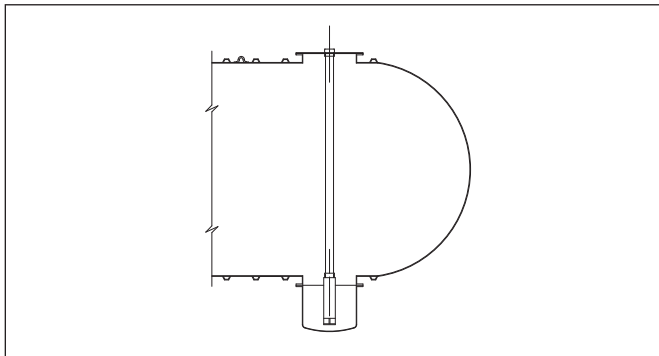

FIGURE 1-1
1.4. A Xerxes large bottom sump is designed to allow for the maximum volume of water or wastewater to be pumped out of a Xerxes tank. (See *FIGURE 1-1*.) It is available in a 30-inch-diameter and a 48-inch-diameter size.